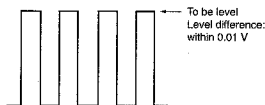

Fig. 3-10
- Adjust the SUB PHASE so that all output will be the same. (Fig. 3-10)